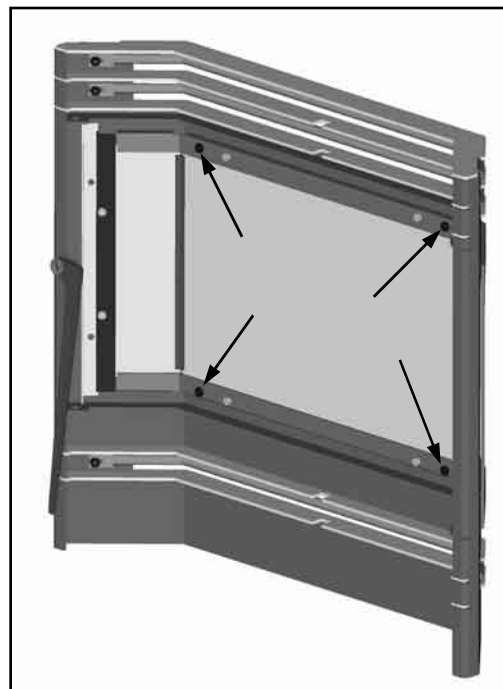

Figure 46: Inner side of Meridian door.
When stove is off and cool, open the door. Remove the four (4) #8 hex nuts around the inside of the glass retainer shown in Figure 46.